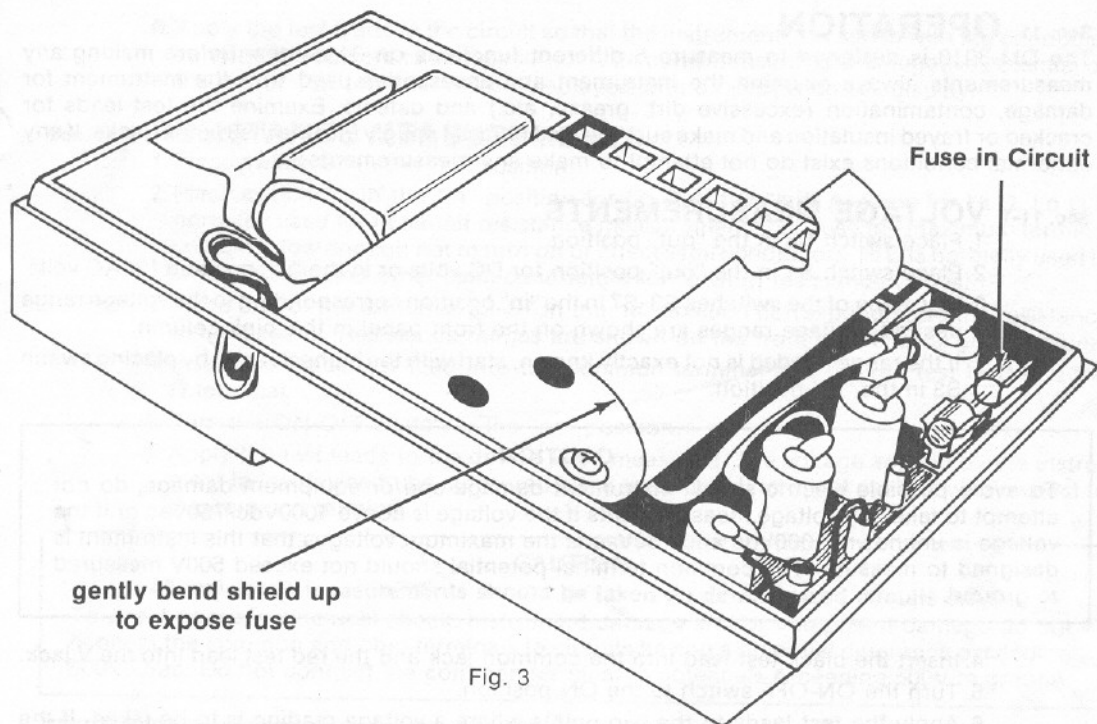

Fig. 3
A 2A/250V fuse, 5 x 20mm fast acting, AWS part #F-11 is used to protect the ampere ranges (other than 10A range) along with other solid state components. There is a spare fuse located inside the instrument in addition to the fuse installed in the circuit. See Figs. 3 & 4 on pages 8 & 9.
5. Gently bend the bottom section of the shield up to expose the fuse installed in the circuit near the bottom of the instrument. See Fig. 3.